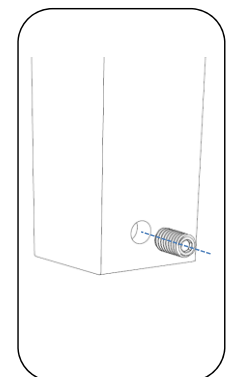

Fig. 1.6
2. After proper curing time, set bench over surface mount bolts and install set screws as shown in Fig. 1.6.